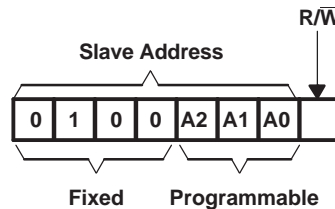
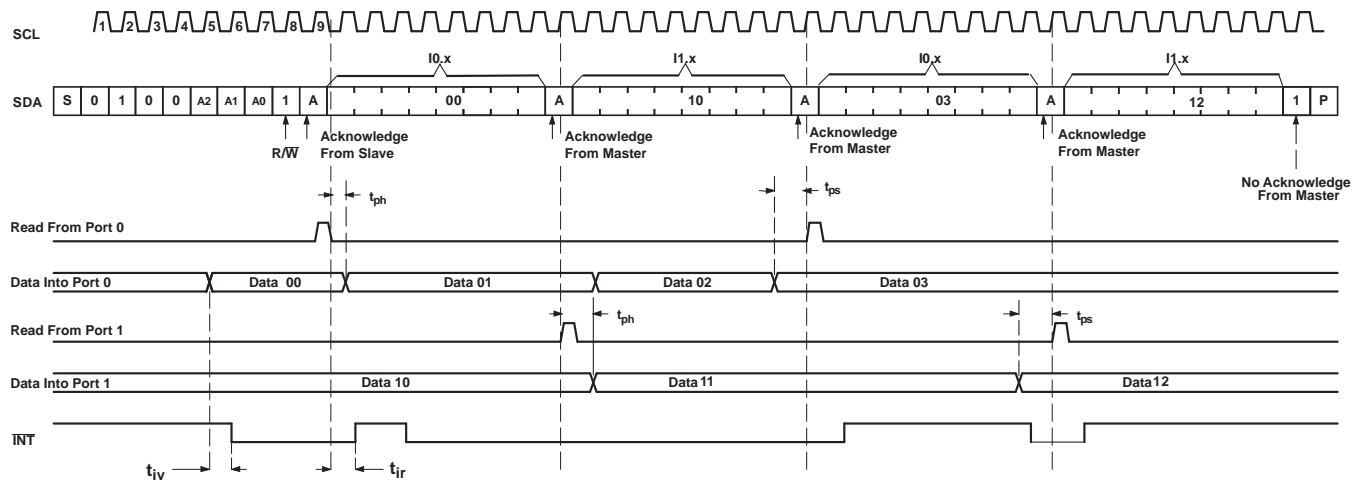

Figure 4. PCA9555 Address
**Figure 8. Read From Register**
Figure 4 shows the address byte of the PCA9555.
Data is transmitted to the PCA9555 by sending the device address and setting the least-significant bit to a logic 0 (see Figure 4 for device address). The command byte is sent after the address and determines which register receives the data that follows the command byte.
The bus master first must send the PCA9555 address with the least-significant bit set to a logic 0 (see Figure 4 for device address). The command byte is sent after the address and determines which register is accessed. After a restart, the device address is sent again, but this time, the least-significant bit is set to a logic 1. Data from the register defined by the command byte then is sent by the PCA9555 (see Figure 8 through Figure 10).
- B. This figure eliminates the command byte transfer, a restart, and slave address call between the initial slave address call and actual data transfer from the P port (see Figure 8 for these details).